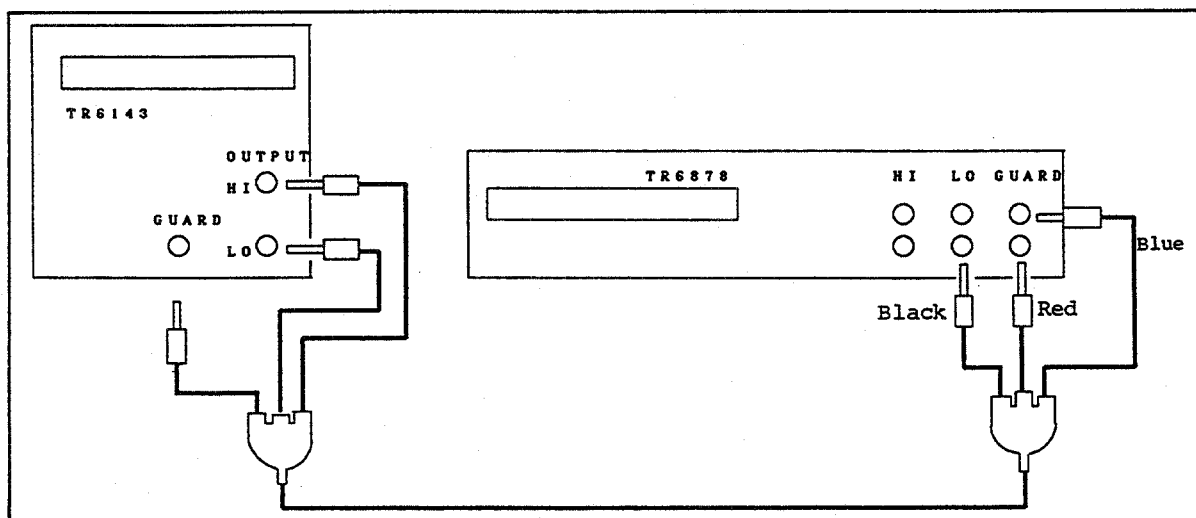
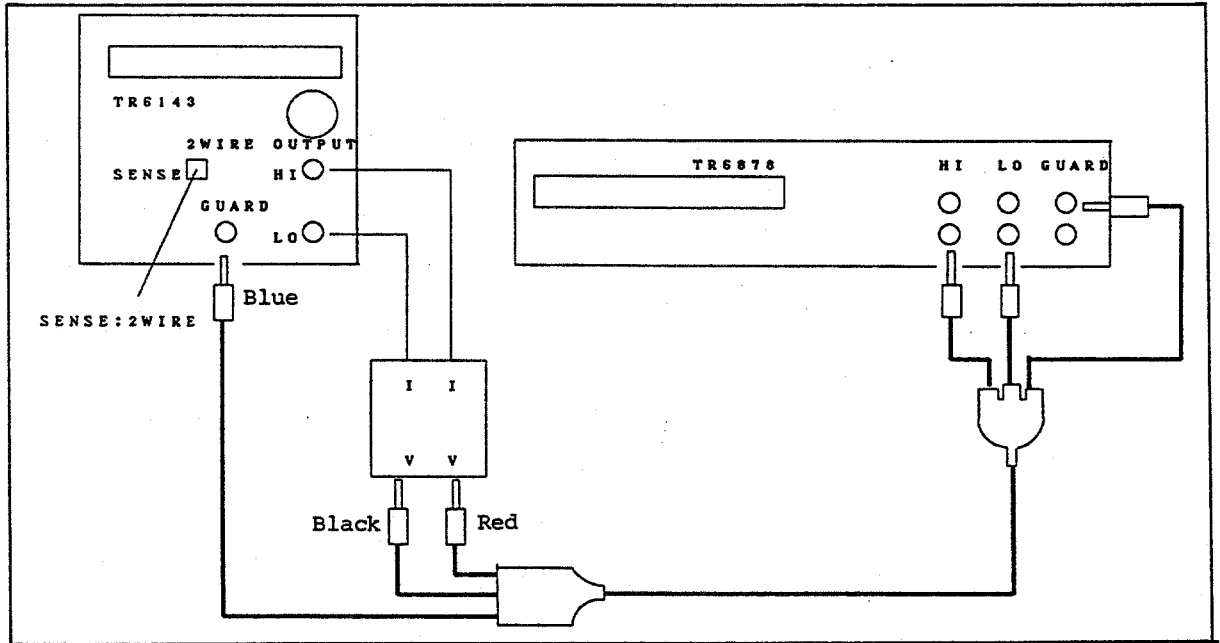

Figure 6-5 How to Connect to a Digital Ammeter
Figure 6-6 Connection to the Standard Resistor and Digital Voltmeter
- ③ Connect a standard resistor and digital voltmeter to the TR6143. (Figure 6-6 shows the connection method.)
- ② Select the range for which the calibration is to be performed by pressing the  or  switch.
- ③ Connect the standard resistor and digital voltmeter to the TR6143. Figure 6-6 shows the connection method.
- ④ Set the operation ON by pressing the  switch.
- ⑤ Calibrate as in 6.2.2 Item (2) ⑤ to ⑬.
- ② Connect to the output terminal of the TR6143 by referring to Figure 6-5 Connection to a digital voltmeter.
- ③ Check the zero point and full scale calibration value as in 6.2.2 (1) ⑪ .
- ④ Change the calibration range and voltage range by pressing the or switch.
(2) Voltage Measurement Function Check
- ① Select the  display by pressing the ^{V/I} switch.
- ③ Check the zero point and full scale calibration value as in 6.2.2 (2) 13 .
- ④ Change the calibration range and voltmeter range by pressing the or switch.
(3) Current Generation Function Check
- ② Connect the output terminal to a digital ammeter or connect a standard resistor to the digital voltmeter as in 6.2.3 (1) ③ (32 μ A to 32 mA ranges) or 6.2.3 (2) ③ (320 mA and 2 A ranges). (see Figure 6-5 Connection to a digital ammeter or Figure 6-6 Connection to a standard resistor and digital voltmeter.)
(see Figure 6-5 Connection to a digital ammeter or Figure 6-6 Connection to a standard resistor and digital voltmeter.)